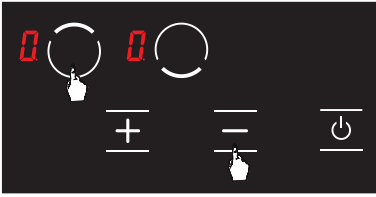

Figure 14
1. Press upper hob selection key (  ) and minus key (  ) simultaneously, you shall hear a short warning signal at this time. (see Fig. 14) Then, remove your fingers from the stove control panel.